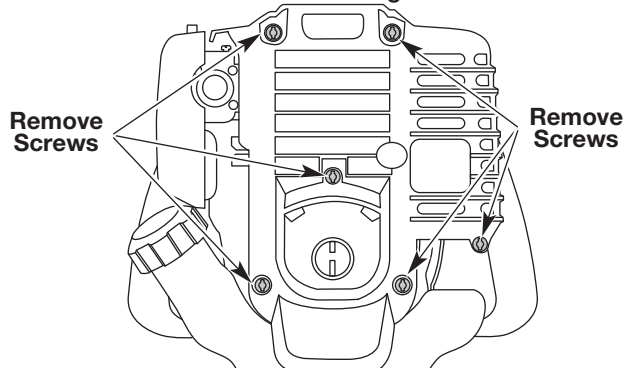

Fig. 31
1. Remove the six (6) screws on the back of the engine cover with a Flat-head or T-25 Torx screwdriver (Fig. 31).
4. Remove the engine cover (Fig. 31).
1. Stop the engine and allow it to cool. Remove the six (6) screws on the back of the engine cover with a Flat-head or T-25 Torx screwdriver (Fig. 31).